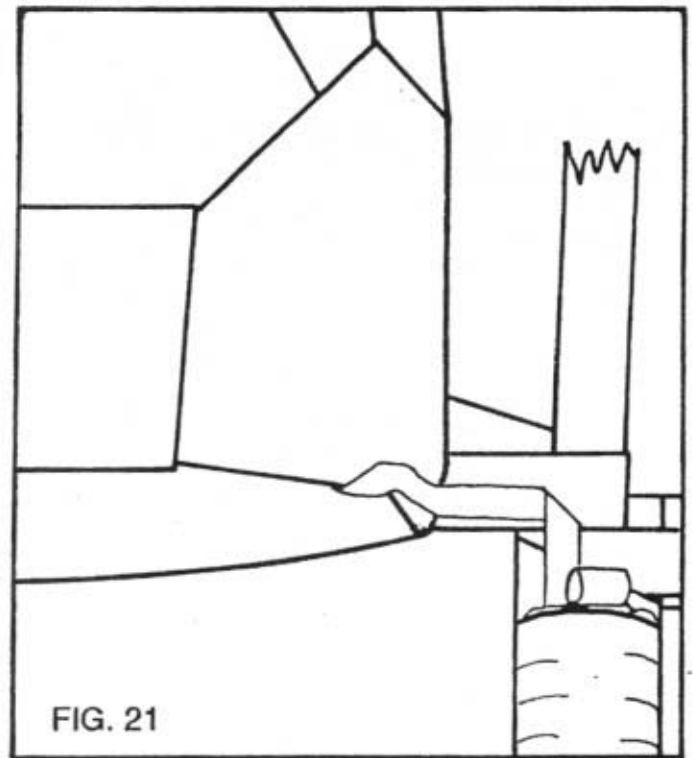
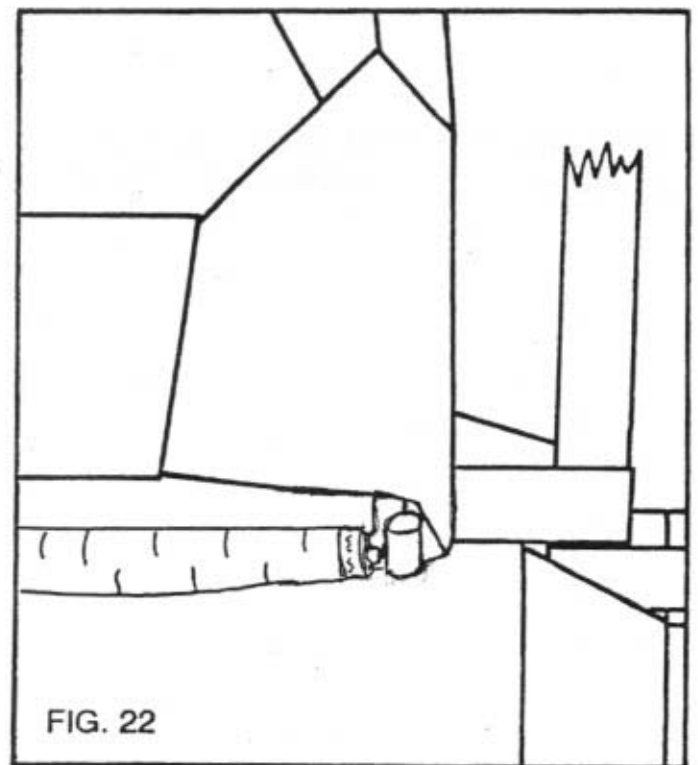

FIG. 21
FIG. 22
20) Using one or two fingers, push the bridle into the pouch a little at a time until none of the bridle is exposed. Then stuff the rolled pilot chute into the pouch until only the handle is visible at the mouth of the pouch. FIG. 21 shows the pilot chute in the pouch on the right legstrap; FIG. 22 shows the pilot chute in the pouch on the bottom of the container. *Do not push the handle all the way into the pouch; that makes it difficult to find when you need it.*